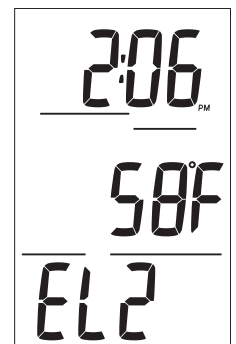

Fig. 5 - NORM SURF ALT 2
**NORM SURF ALT 2**, information includes (Fig. 5):